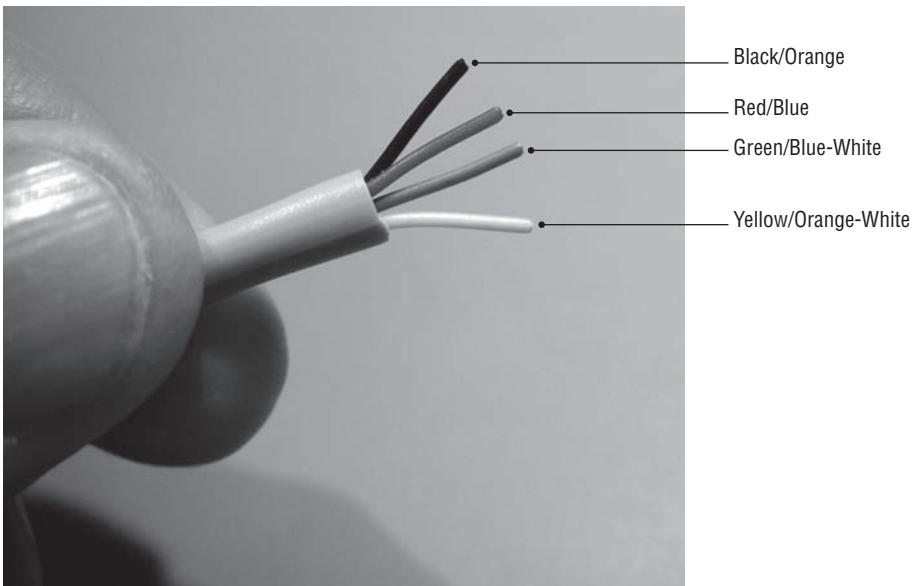

FIGURE 5-3: Arrange the wires.
4. Arrange the wires in the correct sequence as shown in Figure 5-3. Refer to Table 5-4 for a refresher on colors and pins.